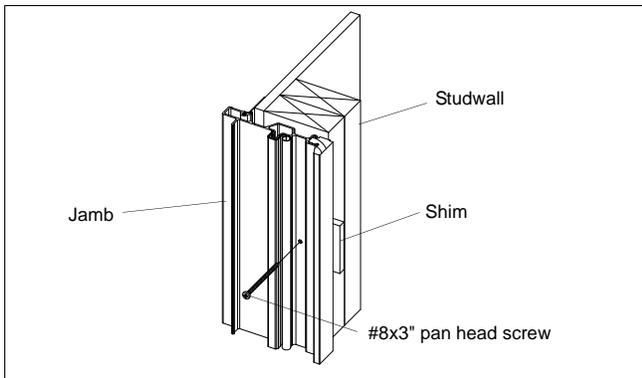

Figure 3 Jamb Detail
3. Shim between the rough opening and the side jambs within 1" (25) and 2" (51) of the two predrilled installation screw holes on each side. Fasten side jambs to the rough opening using the #8x3" pan head screws provided. Recheck each side jamb to ensure plumb, adjust screws and shims if needed. Check shim placement around the unit. Shims should be placed 4" (102) on each side of the top corners and 4" (102) up from sill along the side jambs. Also shim within 1" to 2" of each installation screw. Add shims as required. See figure 3.